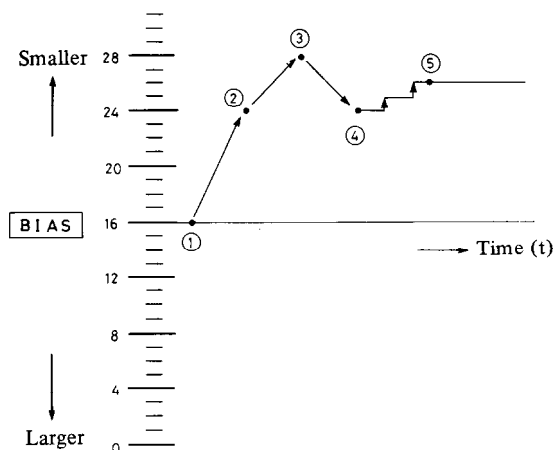
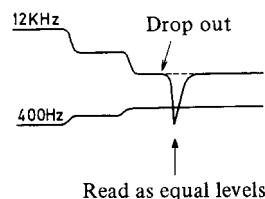
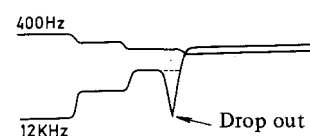

Fig. 2 Bias adjustment method
Fig. 3 Example of misoperation caused by drop out
Fig. 4 Example where effect of drop out is avoided
First the bias is set to step 16 which is in the center of the bias range shown in Figure 2. Then the 400Hz/12kHz mixed signal is subjected to a comparison operation to see which component is larger. If the 12kHz signal is larger, then the bias level is too small. If the 400Hz signal is larger, on the other hand, the bias level is too large. In the example shown in Figure 2, the bias level at step 16 is too large, so the bias is reduced by $\frac{1}{4}$ of the total range (8 steps) to position (2) where the 400Hz and 12kHz components are again compared. If the 400Hz signal is still larger than the 12kHz signal, the bias level is further reduced by $\frac{1}{4}$ of the total (4 steps) (3) and the components then compared again. This procedure is used for rough adjustment of the optimum bias. If at this stage, the 12kHz signal is now found to be greater than the 400Hz signal, the optimum bias is known to exist between steps 24 and 28. The operation is now switched to fine adjustment — the bias is increased by $\frac{1}{4}$ and then reduced one step at a time from step 24. The step where the component signal size relationship is switched from $400 > 12k$ to $12k > 400$ is taken as the optimum bias (5), and the bias is set at this level. This fine adjustment operation proceeds only from greater to lower bias levels in order to avoid misoperation due to possible drop outs. The effects of a drop out on the bias adjustment when the bias is changed from a smaller to a larger level is indicated in Figure 3, while the reverse case is indicated in Figure 4.